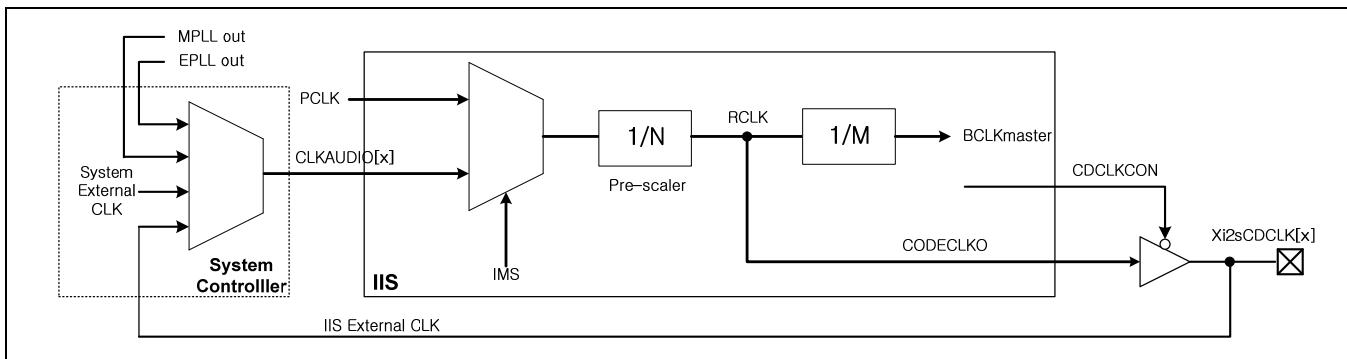

Figure 36-2. IIS Clock Control Block Diagram
Figure 36-2 shows the route of the I2SCDCLK with internal master or external master mode setting in IIS clock control block and system controller. Note that RCLK indicates root clock and this clock can be supplied to external IIS codec chip at internal master mode.
2. You must select a clock source. 6410 has five clock sources. Those are MPLL, EPLL, PCLK, system external clock and IIS external clock. For more information please refer to Figure 36-2.